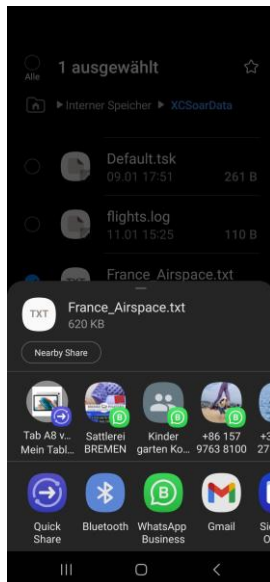

Fig.1
- Send the desired file e.g. from your smartphone via BT to your XCNAV EDITION (fig.1)